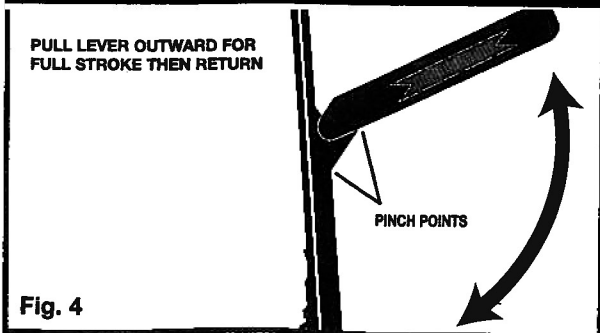

Fig. 4
**CAUTION:** Be sure to grasp the forearm firmly as you close it to prevent it from snapping back and causing possible injury. Also be careful to keep fingers out of cocking mechanism when closing forearm. (See "Pinch Points", Fig. 4).